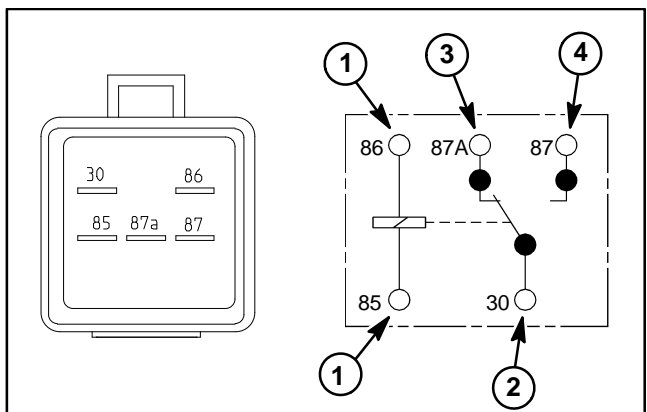

Figure 78
3. Using a multimeter (ohms setting), measure coil resistance between terminals 85 and 86 (Fig. 78). Resistance should be between **70 and 90 ohms**.